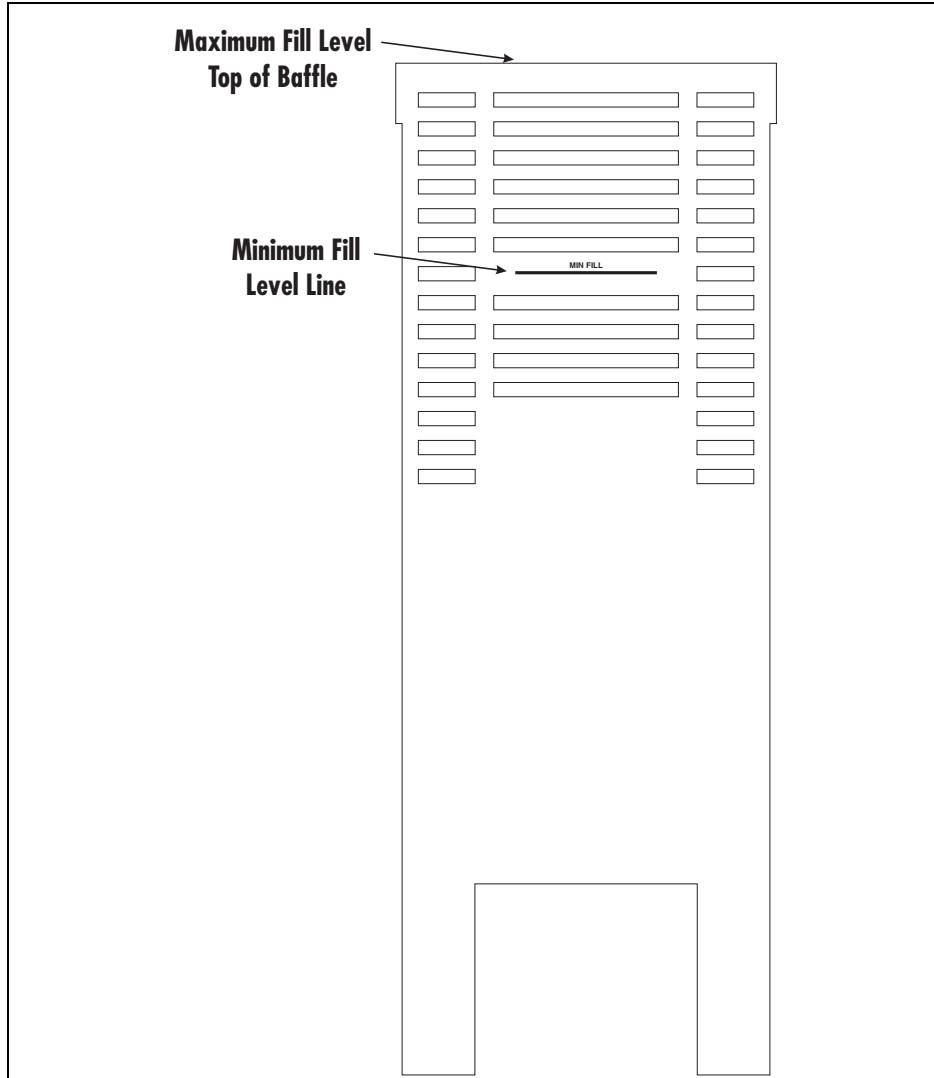

Figure 4-1. Stir Baffle Fill Levels
**When filling the tank, ensure the immersion coils are completely covered. DO NOT FILL ABOVE THE STIR BAFFLE. See Figure 4-1.**